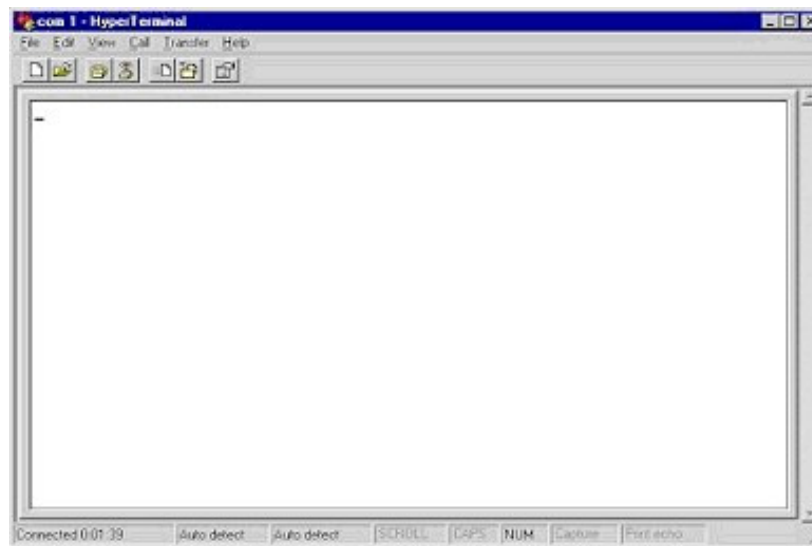

Figure 4. HyperTerminal Main Window
6. The HyperTerminal window will then open (Figure 4).
10. Turn on the autosampler. The HyperTerminal window (Figure 4) should display an **OK**.